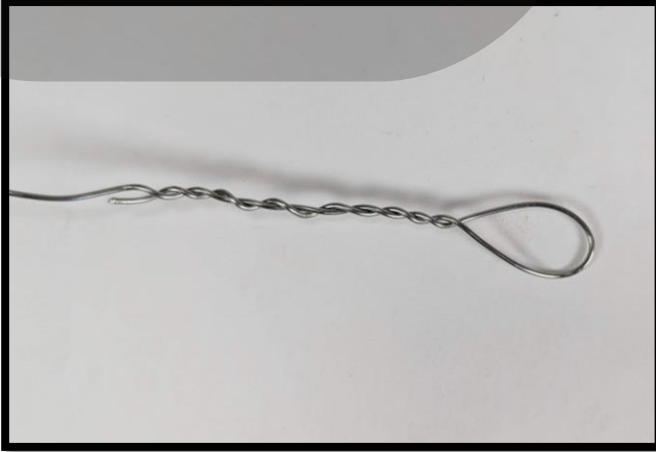

Figure 2c
- c) Locate the included stainless steel wire and make a loop in it as shown in **Figure 2c** that is large enough to fit around a button rivet.